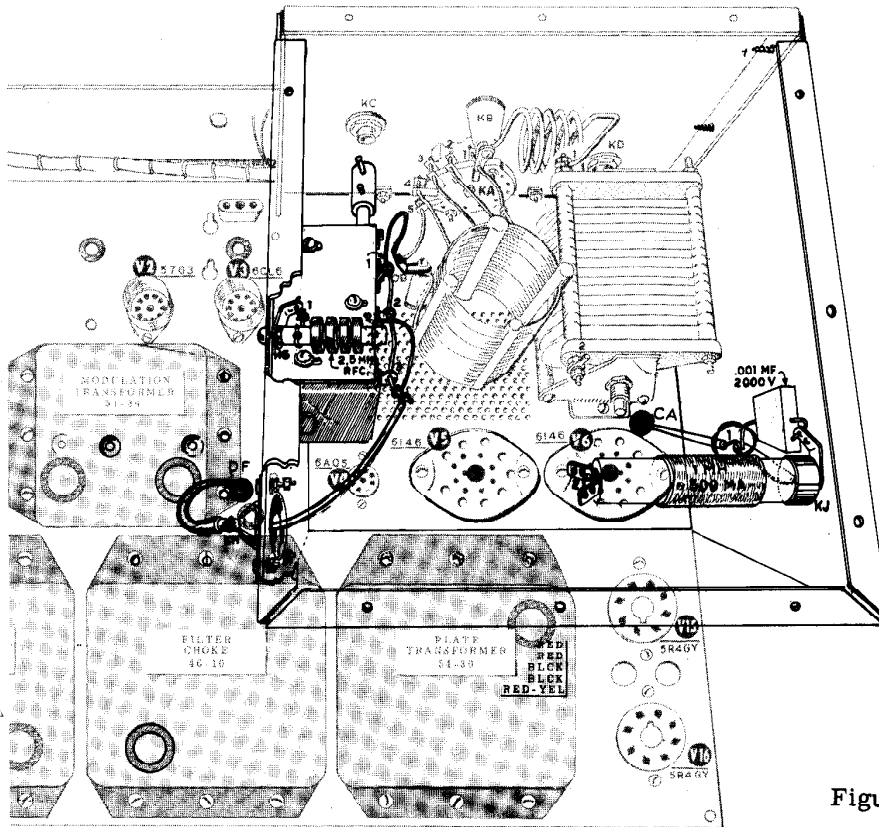

Figure 18
- (✓) Referring to Figure 18, pass the bare wire from standoff insulator CB through lugs 1, 2, and 3 of the loading capacitor. Carefully bend the lugs into position so the wire slides through easily and projects 1/4" beyond lug 3. Now solder lugs 1, 2, and 3. Make sure the wire does not touch the capacitor frame at any point.
- (✓) Referring to Figure 18, insert the long exposed inner conductor of the coaxial cable through the coax shield KH from the outside, sliding the shield braid over the neck. Connect the inner conductor to the projecting end of the #16 wire extending from lug 3 of the loading capacitor (S2). Now solder the shield braid to the neck of the connector shield KH.
- (✓) Connect a .001 mf, 2000 V mica capacitor between RFC lug 1 (NS) and the solder lug (S1). Place the capacitor flat against the shield as shown.
- (✓) Cut a length of #18 hook up wire 8 1/2" long and strip each end for 1/2". Connect one end to RFC lug 1 (S2). Pass the other end through the 5/16" grommet and connect to terminal strip GC-2 (NS) under the chassis. Refer to Figure 18 and Pictorial 15, page 50.